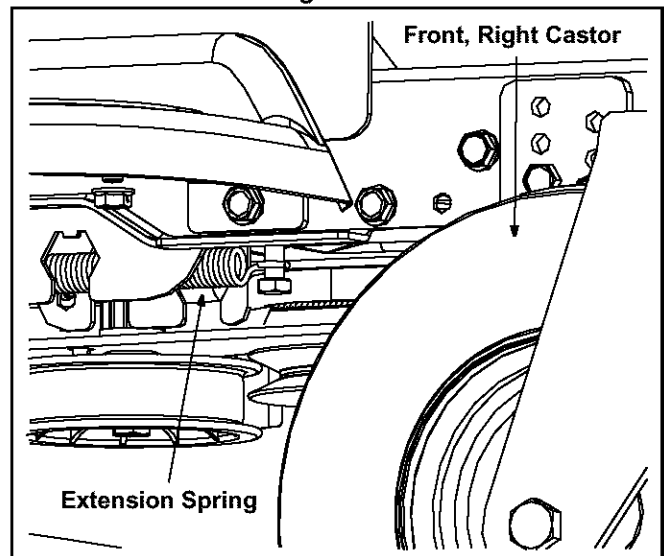

Figure 24
- Looking at the tractor from the right side, locate and carefully remove the extension spring which maintains tension on the drive belt's double-idler pulley. See Figure 24.